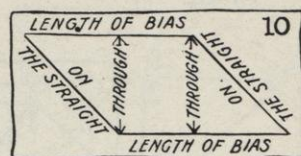

FIG. 10.
- (1) The tape measures in Figure 4 (page 64) indicate *through the bias* (see Figure 10 also). That is the way we usually measure a bias.
- (2) The tape measures testing the bias in Figure 5 (page 64) indicate *on the bias*, or, in reality, *on the selvage* or *on the straight* (see Figure 10 also). This is the measurement for which you are charged when you purchase material that is cut on the bias. (The straight does not stretch when it is measured.) The measurement on the bias is always more than the measurement through the bias.
- (3) Bias *E* to *B* in Figure 3 (page 64) and bias *T* to *B* in Figure 9 *A* and in Figure 9 *B* (page 65) are all *length of bias* (see Figure 10 also).
5. Copy all of Section 7 (pages 65 and 66) and draw Figure 10; label it correctly. Study each section as you write. Take your copy of Section 7 home, if your teacher approves of your work. If you remember these points, you will never make a mistake when cutting bias strips.